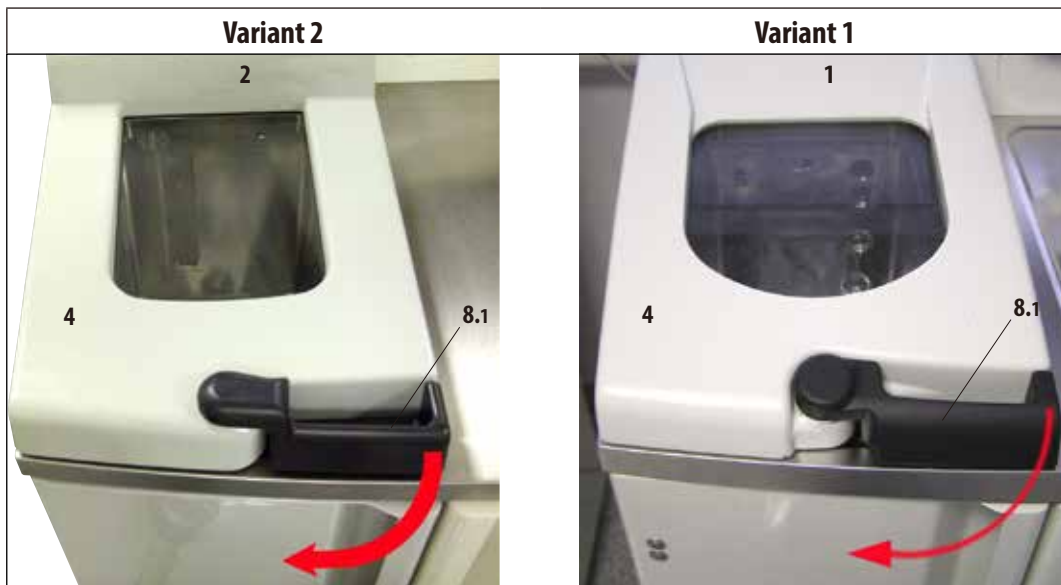

Fig. 27
- To open the retort, twist forward the black handle (8.1) on the retort lid (4) (arrow in Fig. 27). The lid opens upwards.